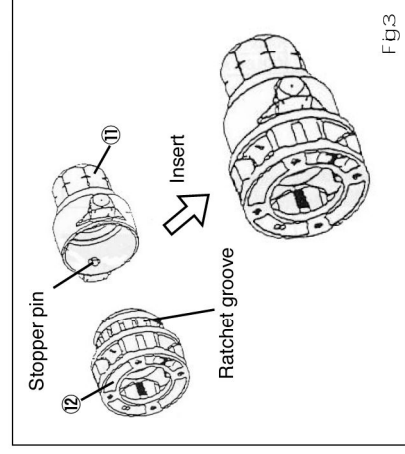

Fig.3
- Select a suitable threading head ⑫ and attach the adapter ⑪. Insert the threading head securely into the adapter, making sure you align the groove in the threading head ratchet with the stopper pin on the inside of the adapter. (Fig. 3)